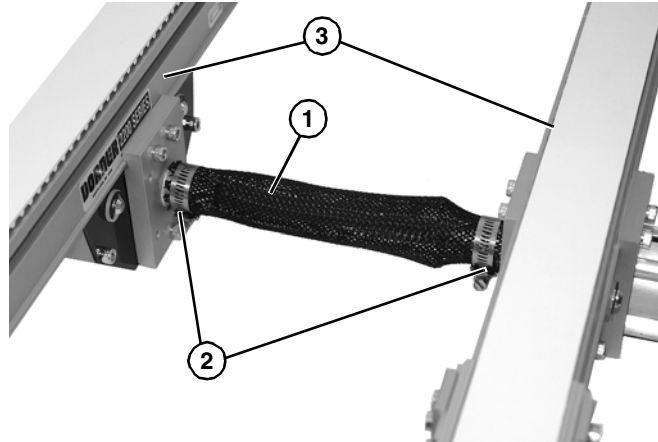

Figure 11
2. Install protective cover (**Figure 11, item 1**) and two clamps (**Figure 11, item 2**) onto shaft, and install assembly between conveyor sections (**Figure 11, item 3**).